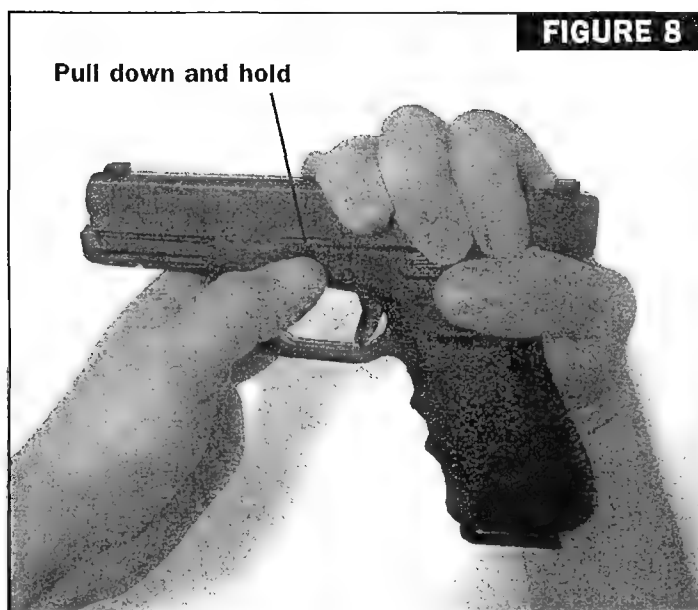

FIGURE 8
- Simultaneously, pull down the slide lock (part no. 21) and hold both sides of it using the thumb and index finger of your free hand (Fig. 8).